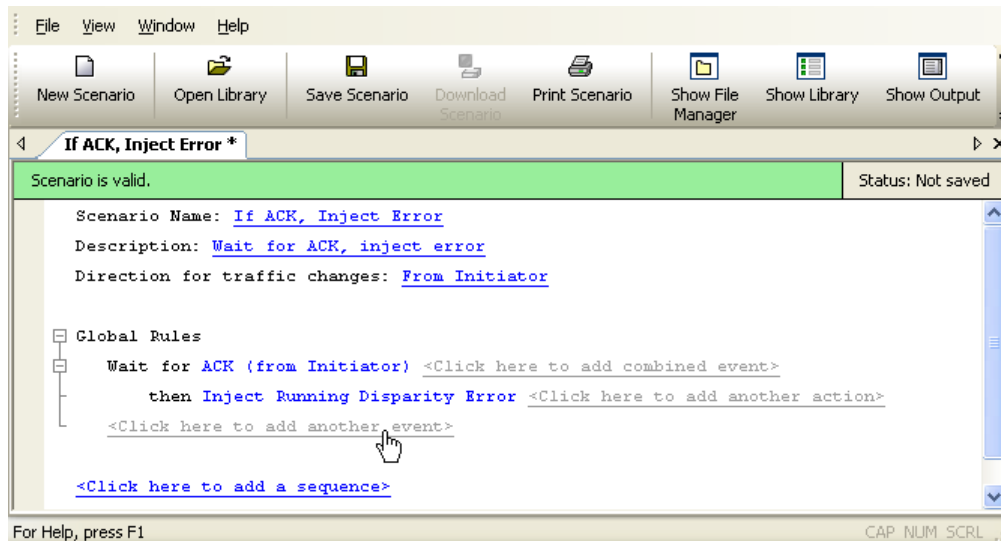

Figure 5.31 Example 6: Entering the Second Event
Step 3 Click on the prompt to **add another event** (keep in mind this is not a combined event) (Figure 5.31).